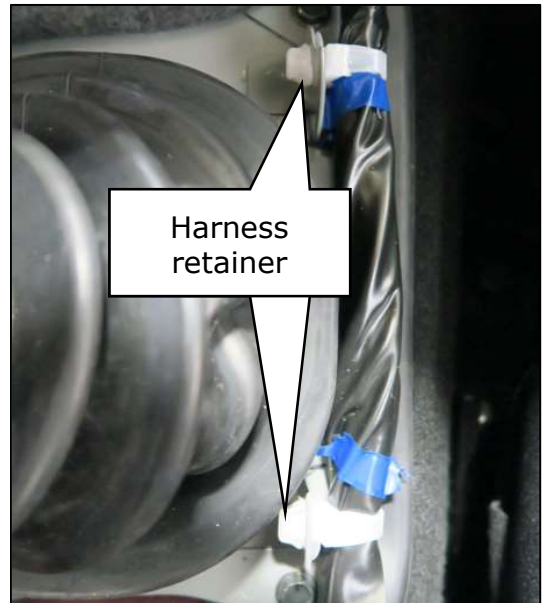

Figure 31
29. Install the harness retainers to the hole cover. (Figure 31)